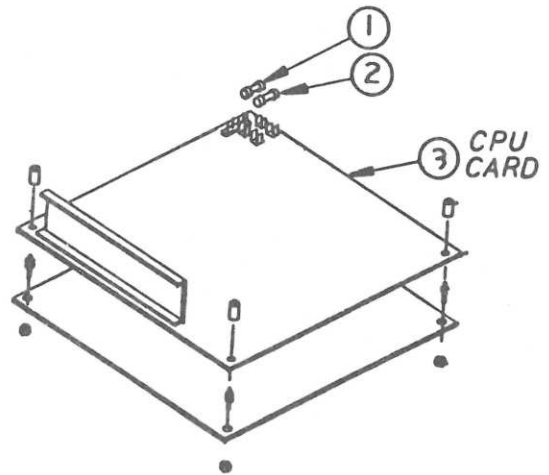

FIGURE 3
- 5.3 CPU Card (Figure 3)
□ CPU CARD (Figure 3)
❑ IMAGEWRITER – MAIN FRAME (Figure 3)